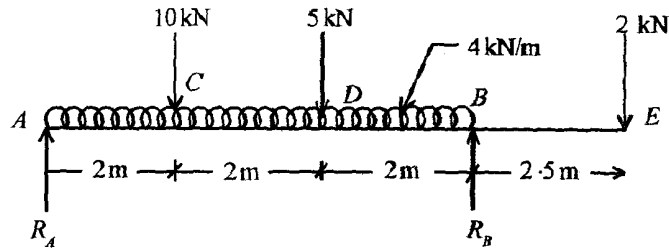

Fig. 3
- (b) Draw the bending moment and shear force diagrams for the beam loaded as shown in Fig. 3. Also, determine the maximum bending moment and the point at which it occurs? 15